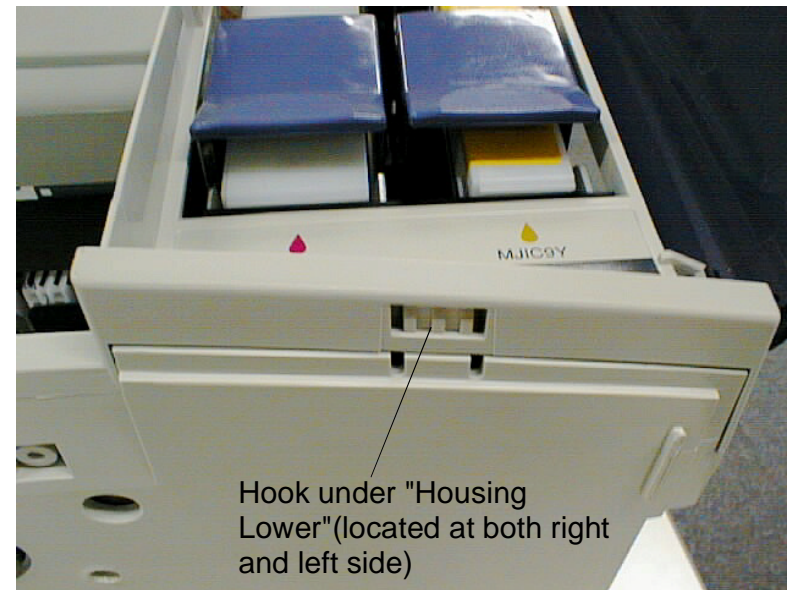

Figure 4-9. Discharge Brush Removal
4. Release 2 hooks securing "Housing Front Unit" located front bottom side of "Housing Lower". (Refer to Figure4-9)